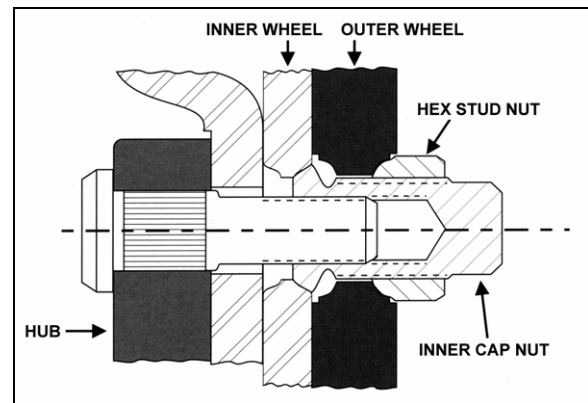

FIGURE 4: STUD-MOUNTED WHEELS 13007
With inner wheel installed, tighten the hex stud nuts (Fig. 4) using the single wheel installation procedure described previously.
1. Loosen a hex stud nut three turns (Fig. 4);